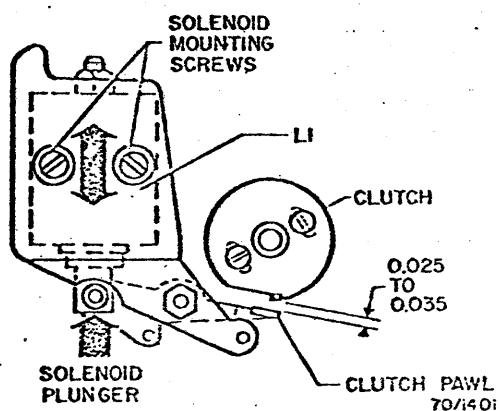

Fig. 3-37. Paper Feed Solenoid
1. Loosen the solenoid mounting screws (Fig. 3-37).
2. Rotate the clutch to locate the hub at the closest point to the pawl (Fig. 3-37).